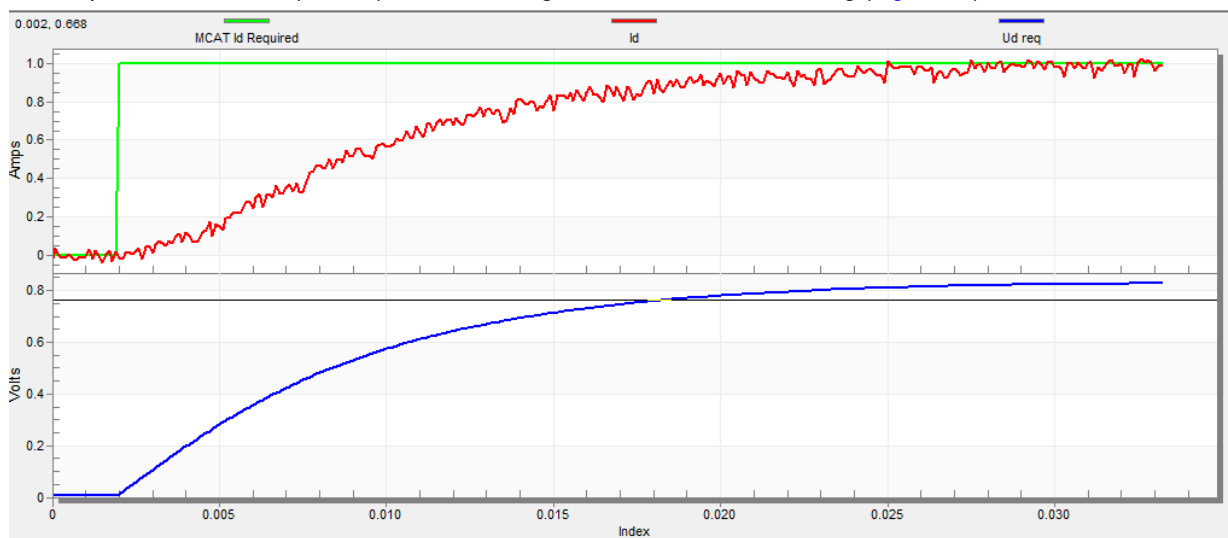

Figure 29. Slow step response of the Id current controller
- The loop bandwidth is low (110 Hz) and the settling time of the Id current is long (Figure 29).